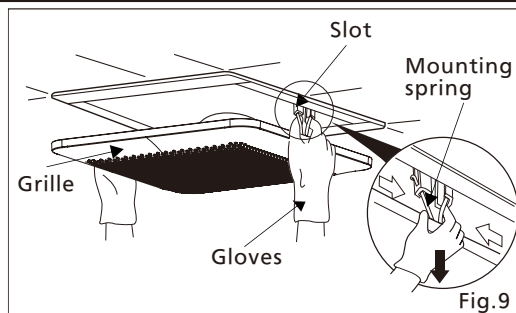

Fig.9
1. Remove grille. (Squeeze mounting springs and pull down carefully.)(Fig.9)